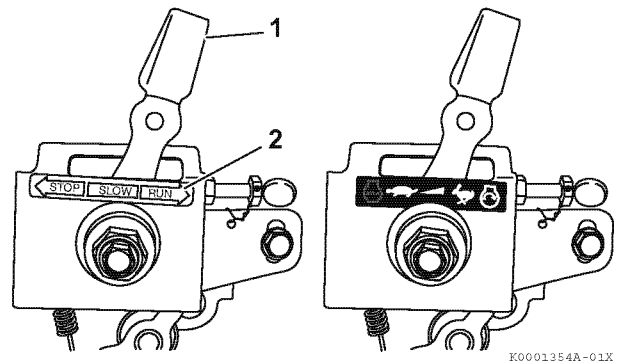

Figure 12
1. If your engine speed control is similar to **Figure 12** slide the engine speed control lever (1, **Figure 12**) to the RUN position (2, **Figure 12**).